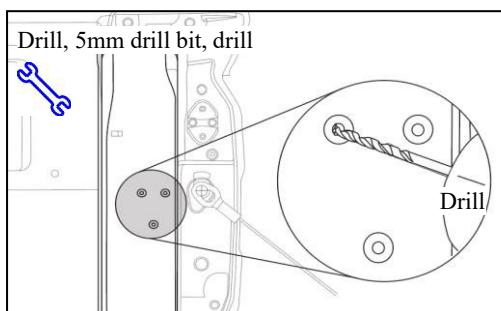
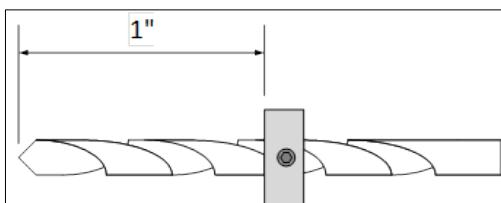

Fig. 1-2
Fig. 1-3
(3) Drill the three holes through the center point just marked with a 5.0 mm drill bit (Fig. 1-2). Set drill stop to 1" (Fig. 1-3).
(4) Deburr the holes just drilled and apply sealant around the holes.